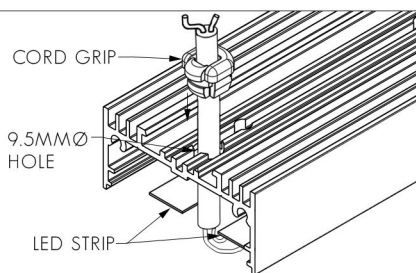

FIG. 2 - MAKE ELECTRICAL CONNECTION
2. MAKE ELECTRICAL CONNECTION; CONNECT LED STRIP TAILS TO LED DRIVER (SEE FIG. 2 IF SUPPLIED WITH MALE/FEMALE CONNECTORS).